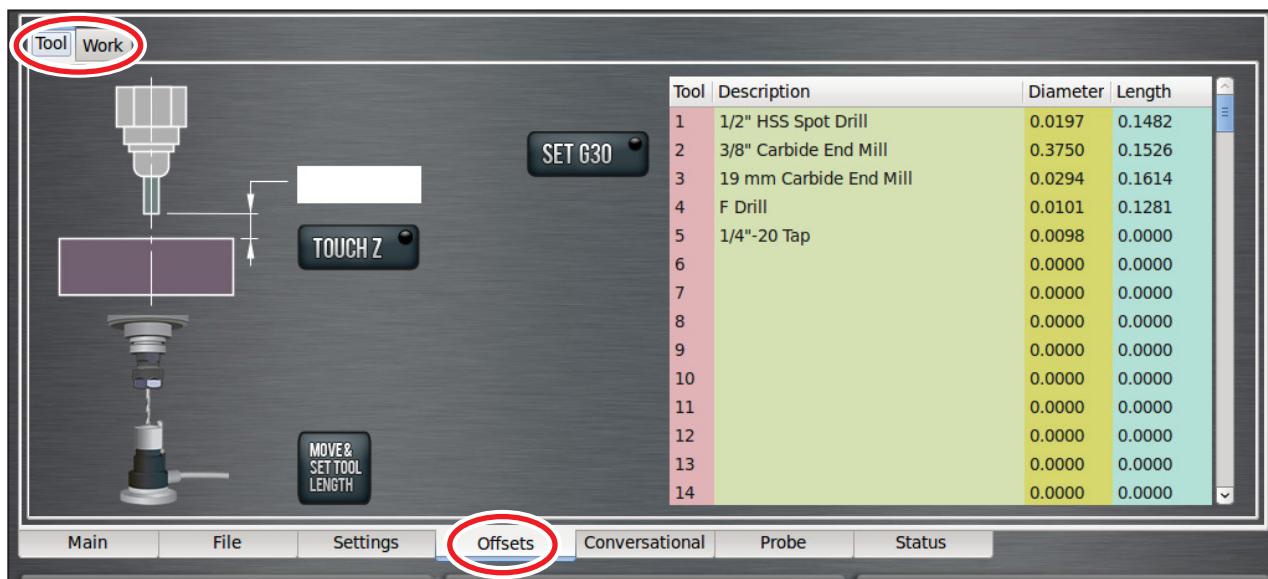

Figure 6.19
The *Offsets* tab reveals two sub tabs, *Tool* and *Work* (see **Figure 6.19**).
The *Tool* tab displays a tool table on the right with fields available to input tool information (see **Figure 6.19**).
4. Click on the appropriate line in the tool table (see **Figure 6.19**); the line is highlighted.
5. Press *Data* button on the USB interface cable to transfer measurement information to the *Length* field in the tool table (see **Figure 6.19**).
The offsets table on the *Offsets* screen (see **Figure 6.19**) displays an editable table of tool offsets (both geometry offsets and wear offsets) as well as a read-only table of work offsets. To alter a value in the tool offsets table, double-click on the field. After entering the desired new value, click *Enter* to accept the value. The mill must be powered on and not in reset mode to edit these fields.
The *Work* tab (see **Figure 6.19**) displays a read-only table of work offsets. The active work offset is highlighted in this table.